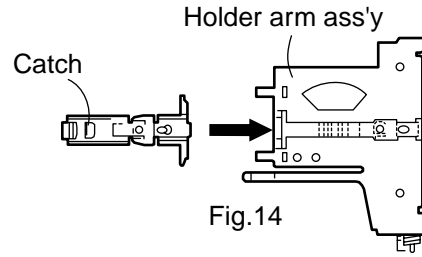

Fig.14
4. Set the catch to the holder arm ass'y as shown in Fig.14.